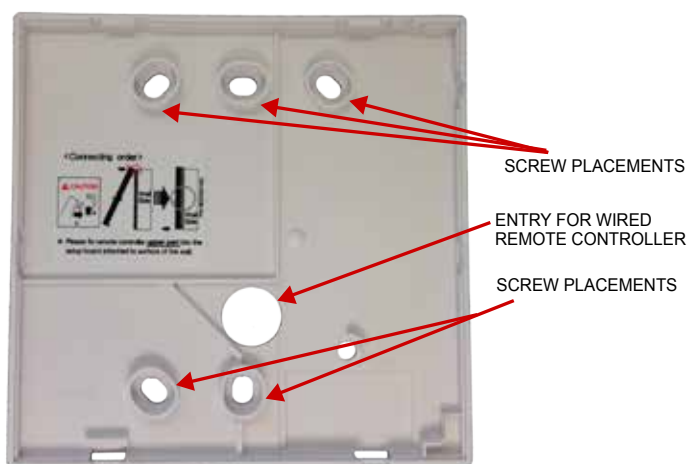

Figure 38: Hydro Kit Unit Controller Subbase
2. Attach the Hydro Kit Wall Mounted Controller subbase to the wall or handy box. Using the provided screws, insert through the holes in the subbase and tighten screws to anchor (Figure 38).
9. If a back entry is selected, route the female plug-end of the Hydro Kit Wall Mounted Controller cable already located in the handy box or protruding from the wall surface through the large hole on the back side of the subbase. Attach the subbase to the wall or handy box using the appropriate screws or fasteners (Figure 38).